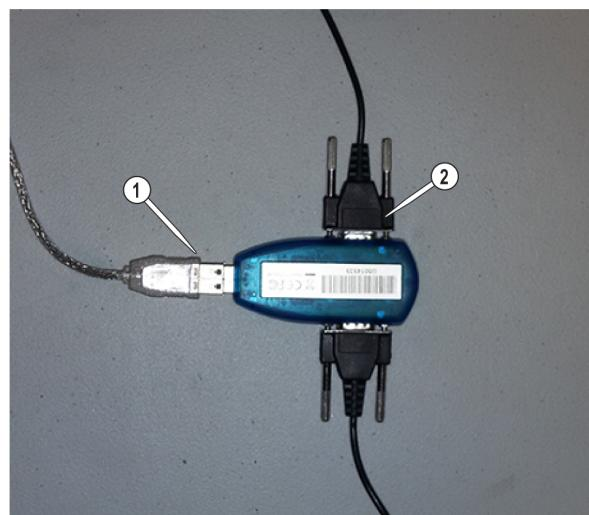

Figure 11
4. Plug the **COM port end** of the **cable** from the **X-axis indicator** into the **port** (Figure 11) [2] on the **USB/COM port adapter**. The **COM port adapter** will auto detect which **axis indicator** is plugged in.